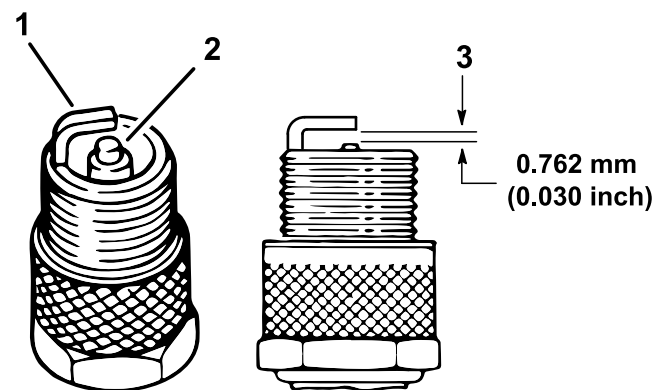

Figure 41
4. Check the condition of the side electrode, center electrode, and center electrode insulator to ensure that there is no damage (Figure 41).
5. Set the air gap between the center and side of the electrodes at 0.76 mm (0.03 inch) as shown in Figure 41.